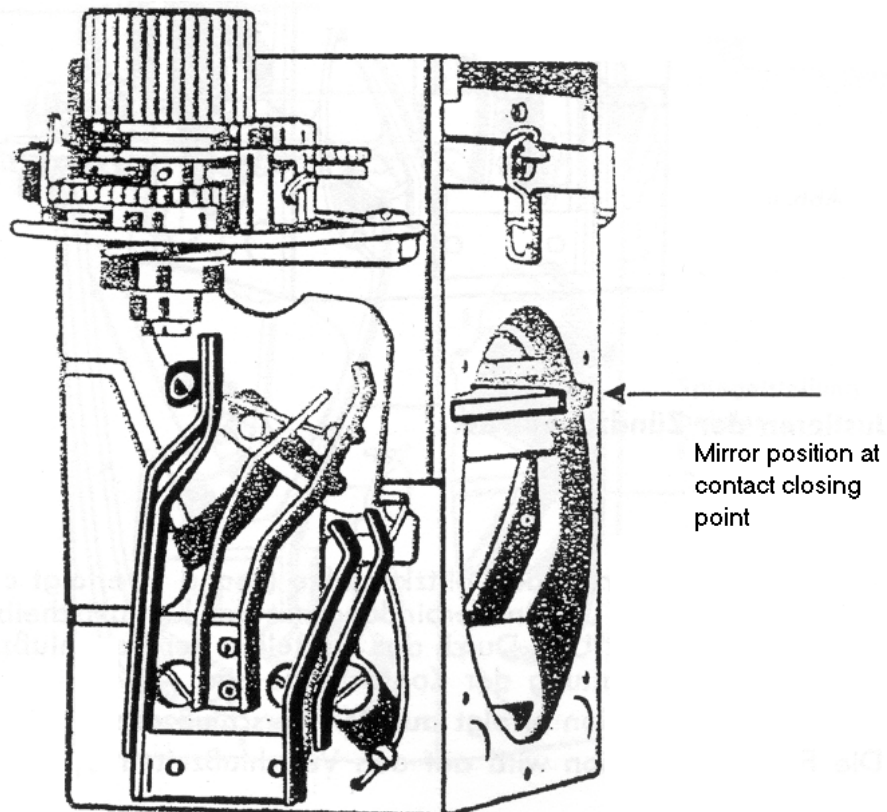
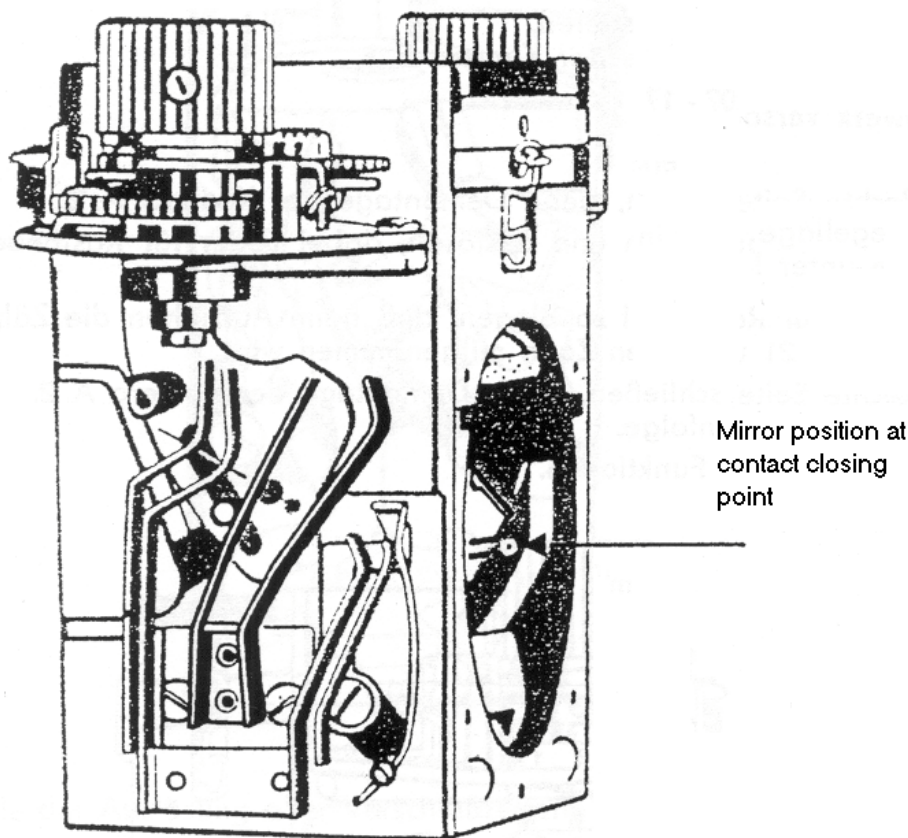

Fig. 5
Fig. 6
- b) Holding the leading edge of the shutter flap with a finger, fire the shutter and let the leading edge of the shutter flap run slowly. The X-contact must fire near the position shown in Fig. 5, and the F-contact near the position shown in Fig. 6. If they do not do so, the contact spring must be bent at the flash contact accordingly.